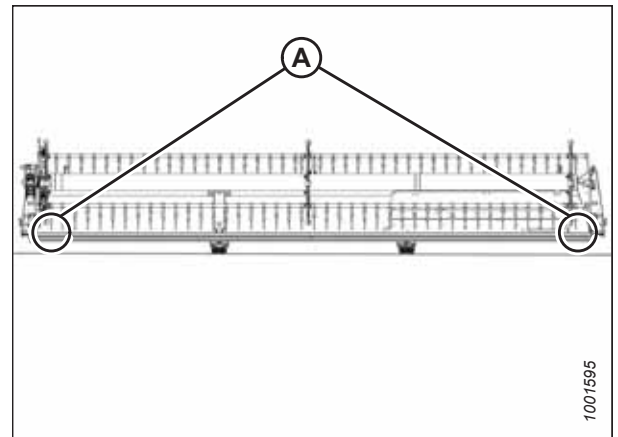

Figure 4.282: FlexDraper® Measurement Locations – Single Reel
- Single-reel headers: Figure 4.282, page 435